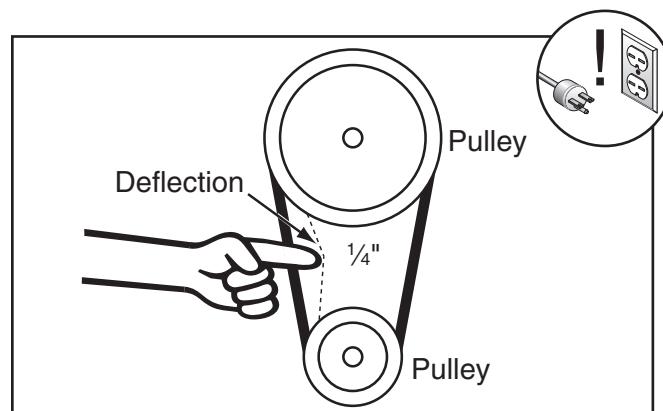

Figure 130. Correct timing-belt deflection.
4. Loosen jam nuts on four set screws shown in **Figure 130**, and adjust set screws same amount as follows:
5. Check belt tension: Each belt is correctly tensioned when there is approximately $\frac{1}{4}$ " deflection when it is pushed with moderate pressure, as shown in **Figure 130**.